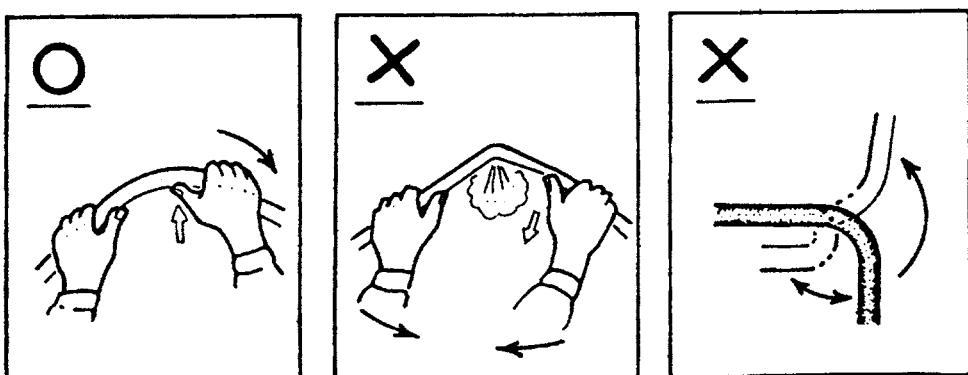

Fig. 101
- (2) When bending the pipe, make sure that radius of the bend must be at least 10cm, or the pipe may get flat; once the pipe is bent, do not bend it back and forth repeatedly, or it may get twisted or crack (see Fig. 101)